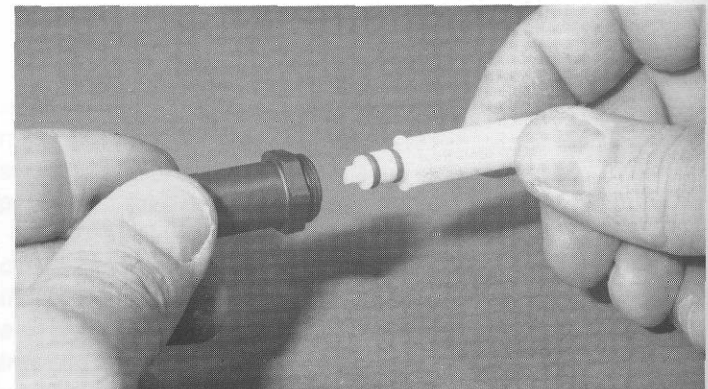

Fig. 119
□ **Fig. 119** (1) Take one of the shock bodies and the shock tool, with the internal parts on it, and slowly insert the tool into the shock body until it bottoms out. If everything goes in smoothly, the tip of the shock tool will be even with or just slightly out of the bottom of the shock body. If it isn't, you may need to rotate the shock body to help it seat the parts the rest of the way into the shock cavity. (2) Now stand the shock tool on your workbench, with the shock body on top, and firmly push down on the shock body until you hear and feel the split washer snap into its groove. You may have to push hard before it will go in. (3) When properly installed, the end of the shock tool should be sticking out the bottom of the shock about 1/8". (4) Once the parts have been properly snapped into place, pull the tool out. (5) Look inside the shock body for any obvious signs that the parts did not go together correctly. **MAKE SURE THE WASHER IS FULLY SEATED IN ITS GROOVE.** If the parts are not seated correctly, the shock will leak or even come apart internally. (6) Go ahead and repeat the same steps for the other three shock bodies.